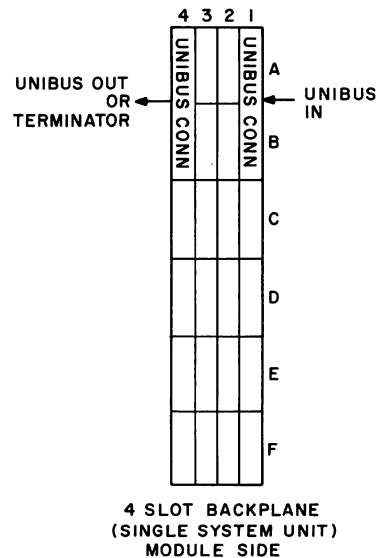

Figure 2-1 Standard Unibus Connection
The system unit is the basic mounting assembly for PDP-11 logic. Logic module and cable connectors plug into the module side of the system unit. The other side of the system unit contains either backplane wiring or etched board wiring which connects the pins together. A system unit connects to another system via the Unibus. Four slots of a system unit are reserved for Unibus connections. These are slots A and B of the first and last slots as shown in Figure 2-1.
2. Install a Unibus jumper module (M920) from the last slots A and B (see Figure 2-1) of the first SU to adjacent SU slots A and B. This extends the system Unibus continuity to each logic backplane in the BA11-K.